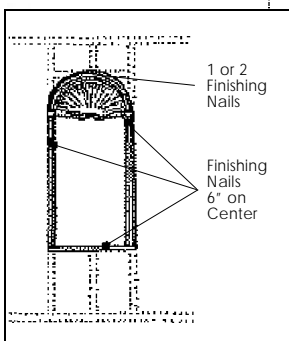

Figure 3
- Screw or nail into bracing and studs. (figure 3)